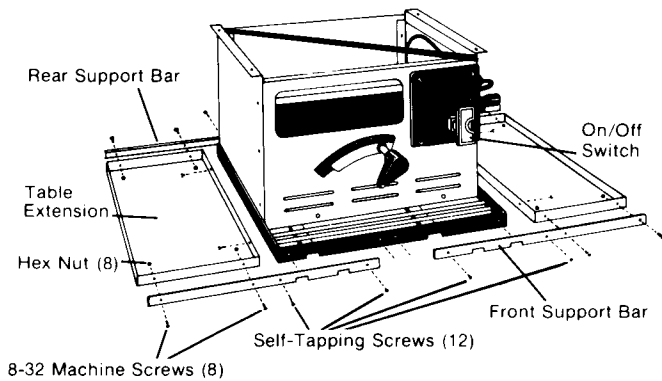

Figure 2
High quality bearings are used in the Table Saw motor and periodic lubrication of them is not necessary. A few drops of light machine oil each year on the height and bevel adjustment rod threads will help to assure ease of operation. These rods can be seen clearly inside the saw when it's upside down as in figure 2.
I. INSTALLATION OF TABLE EXTENSIONS (Figure 2) shows the operations you will be performing in this section. (Familiarize yourself with figure 2 before you begin.)